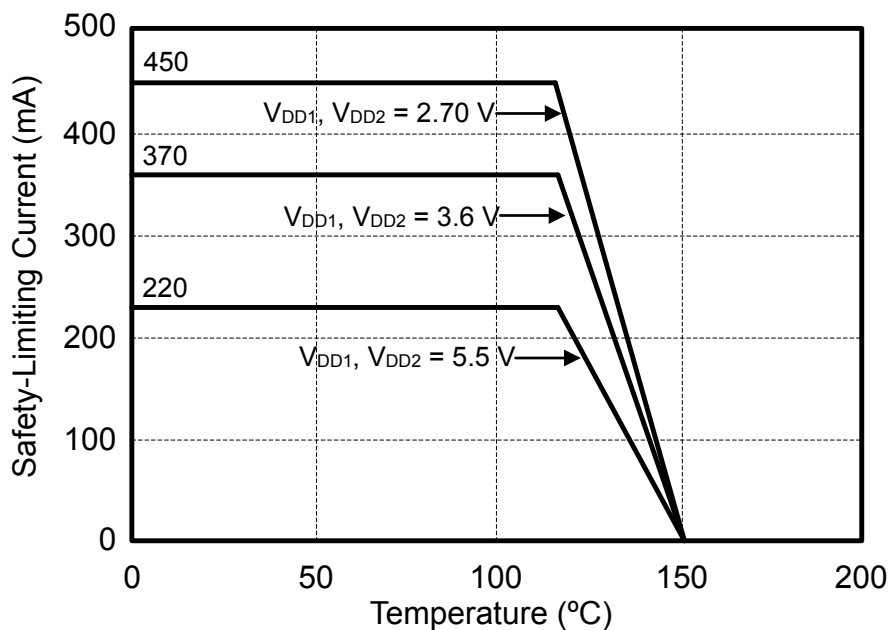
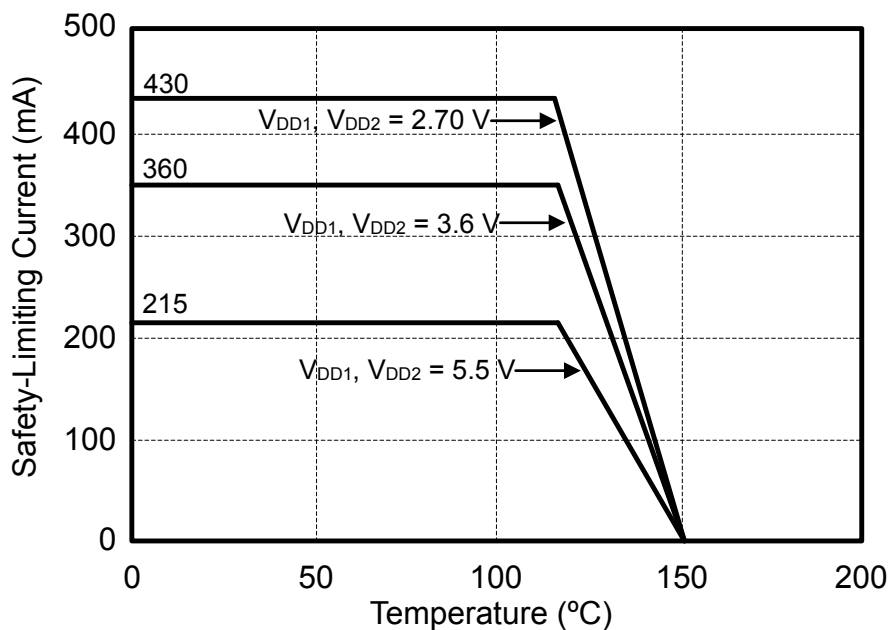

Figure 4.4. (WB SOIC-16) Thermal Derating Curve, Dependence of Safety Limiting Values with Case Temperature per VDE 0884-10
Figure 4.5. (NB SOIC-16, QSOP-16) Thermal Derating Curve, Dependence of Safety Limiting Values with Case Temperature per VDE 0884-10
- Maximum value allowed in the event of a failure; also see the thermal derating curve in [Figure 4.4 \(WB SOIC-16\) Thermal Derating Curve, Dependence of Safety Limiting Values with Case Temperature per VDE 0884-10 on page 24](#) and [Figure 4.5 \(NB SOIC-16, QSOP-16\) Thermal Derating Curve, Dependence of Safety Limiting Values with Case Temperature per VDE 0884-10 on page 24](#).